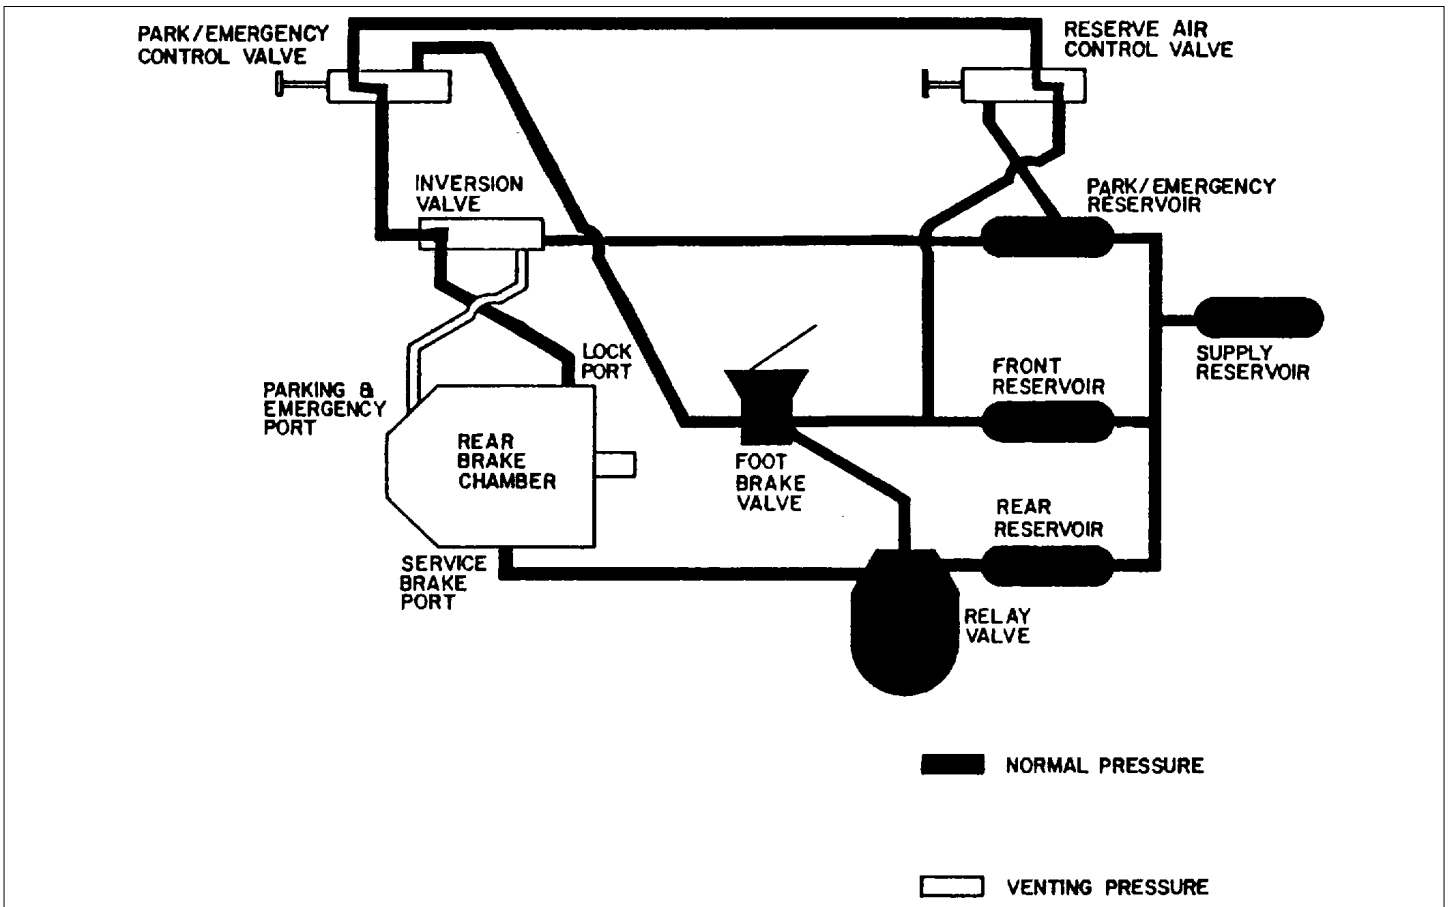

Fig. 3 NA370-A
When the foot brake pedal is depressed making a normal service brake application, air pressure from the supply line passes through the foot brake valve in two directions: (A) to the front relay valves, triggering them to supply air from the front service reservoirs to the front brake chambers; and (B) to the rear relay valves, triggering them to supply air from the rear service reservoir directly to the service port of the rear brake chambers (11). (Refer to Fig. 3),